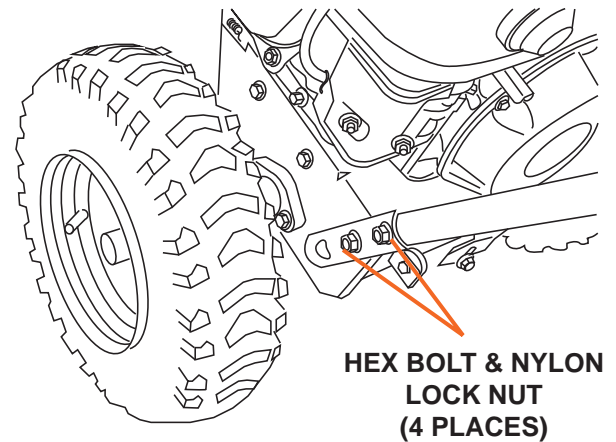

Figure 1
1. Hex bolts and nylon lock nuts have been provided in a hardware package. Align the two holes at each end of the handlebar with the two holes in the handlebar support on the snow blower. Push hex bolts through from the outside and secure with a nylon lock nut on the interior in two places on both sides of the snow blower (see Figure 1).